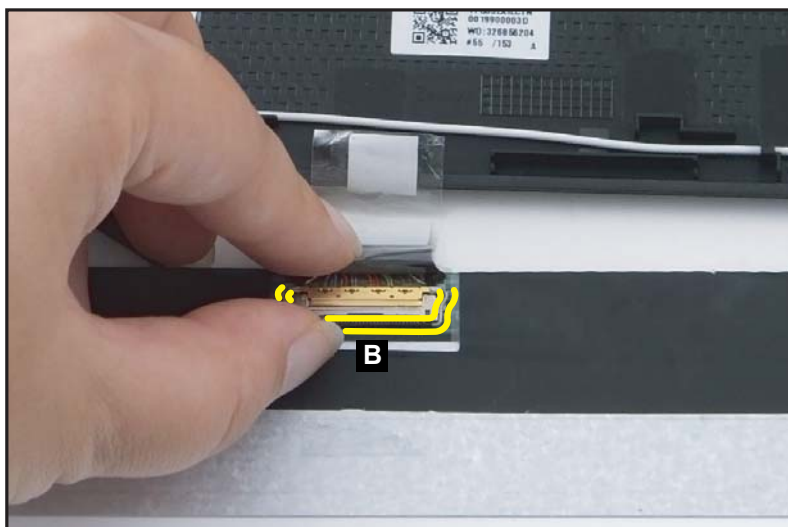

Figure 1-75. Replacing the LCD Panel
3. Push the latch (B) down to secure the eDP cable in place (Figure 1-75).